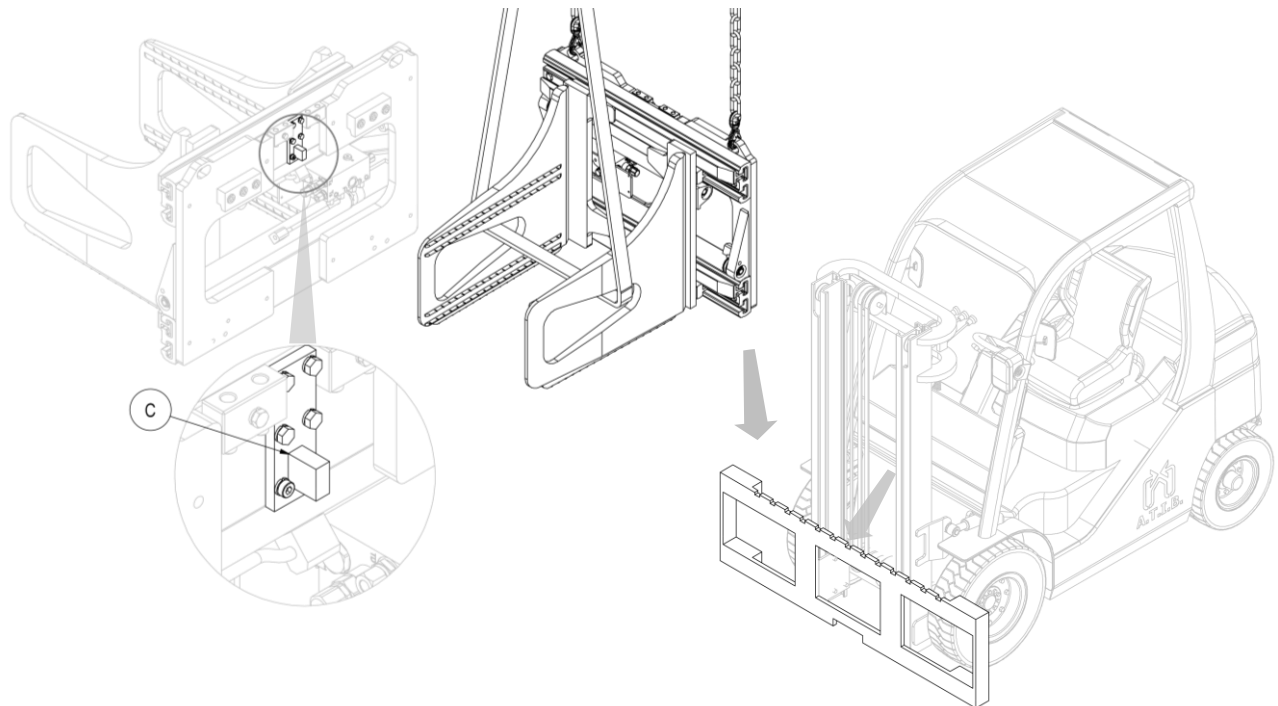

Figure 3
6. Then hook on the equipment using an overhead crane or hoist of sufficient capacity and position it on the fork carriage, taking care to fit centring pin C into the central notch on the fork carriage (see *Figure 3*).